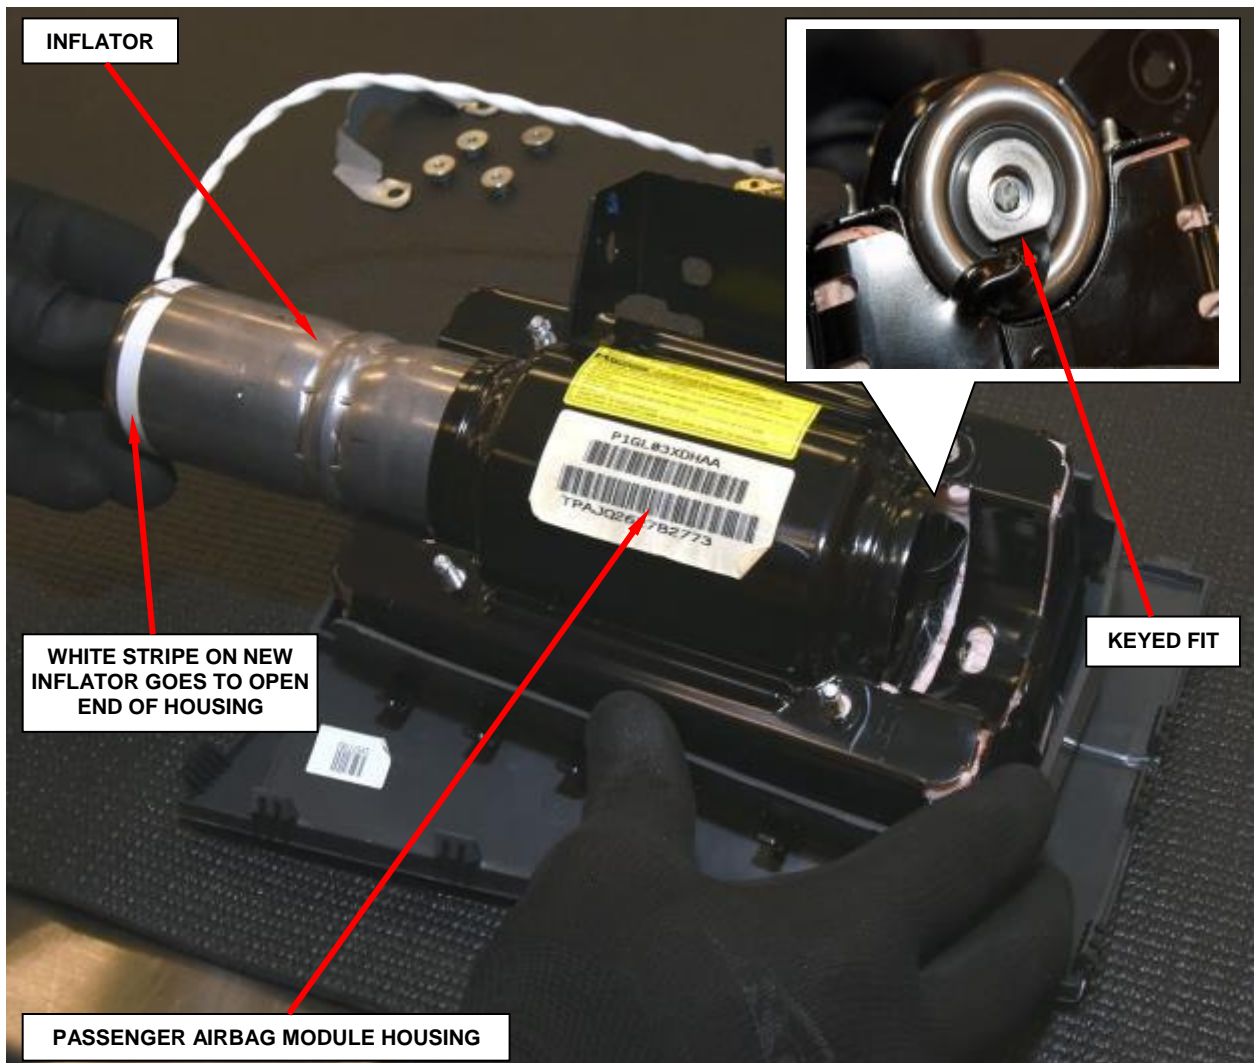

Figure 14 - Passenger Inflator Installation
NOTE: The inflator's key MUST line up with the housing's key (Figure 14).
- n. Slide the **NEW** inflator into the passenger airbag module housing. The keyed end is inserted first; therefore, the white stripe on the **NEW** inflator will be located at the open end (Figure 14).
NOTE: The inflator is keyed to fit into the housing (Figure 14).